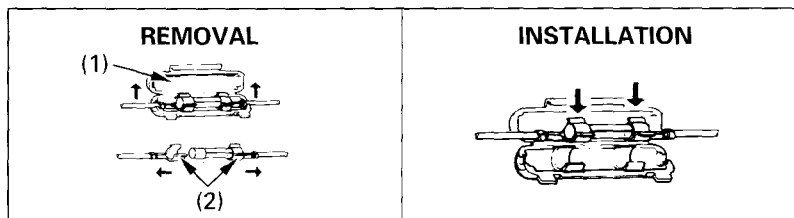

Fig. 4-22 (1) Fuse holder
2. Open the fuse holder (Fig. 4-22) and lift out the fuse with the clips (2).